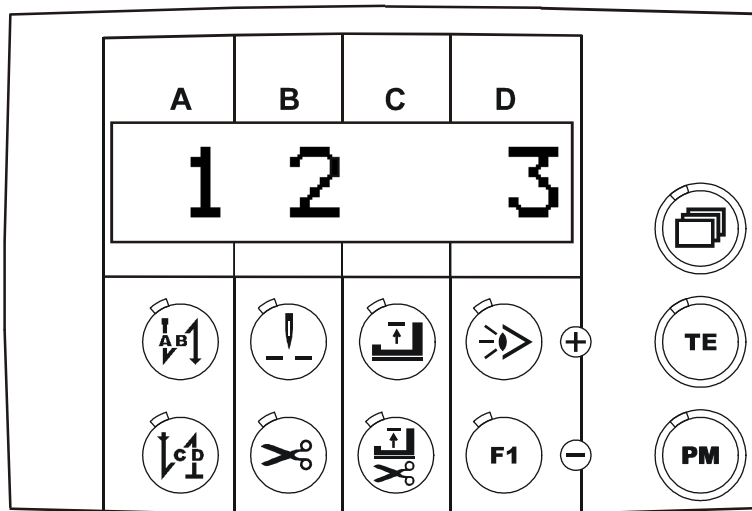

Fig. 9.13
- Keep these **two keys** pressed until "1 2 3" (Fig. 9.13) appears on the display, then release the keys.